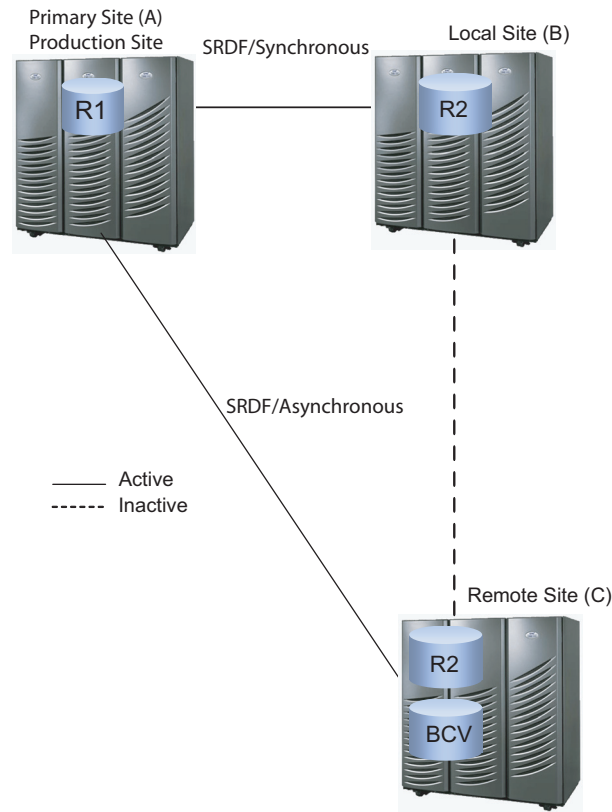

Figure 5-1 Concurrent SRDF Configured for SRDF/Star Support
SRDF/Star provides for rapid re-establishment of cross-site protection in the event of Primary Site (A) failure. Rather than a full resynchronization between sites B and C, SRDF/Star provides a differential B to C synchronization, dramatically reducing the time it takes to remotely protect the new production site. SRDF/Star also provides a mechanism to determine which site (B or C) has the most current data in the event of a rolling disaster that affects site A. In all cases, you maintain the ability to choose both which site to operate from and which site's data to use when recovering from a primary site failure. Figure 5-1 shows a SRDF/Star configuration. It is strongly recommended that all SRDF devices be locally protected and that there is capacity allocated for one replica (BCV, Snap, or clone) in at least one of the remote sites in the configuration.